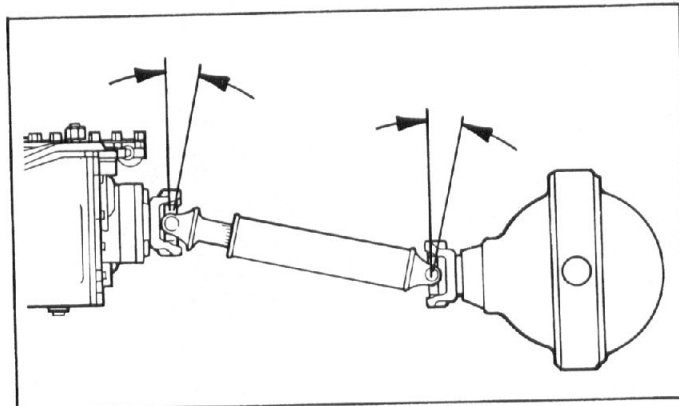

Figure 15. Transmission and rear axle readings should be equal.
- c. **Example:** If transmission angle reading is 3 degrees down to the rear, the rear axle angle should be 3 degrees up, Figure 15.